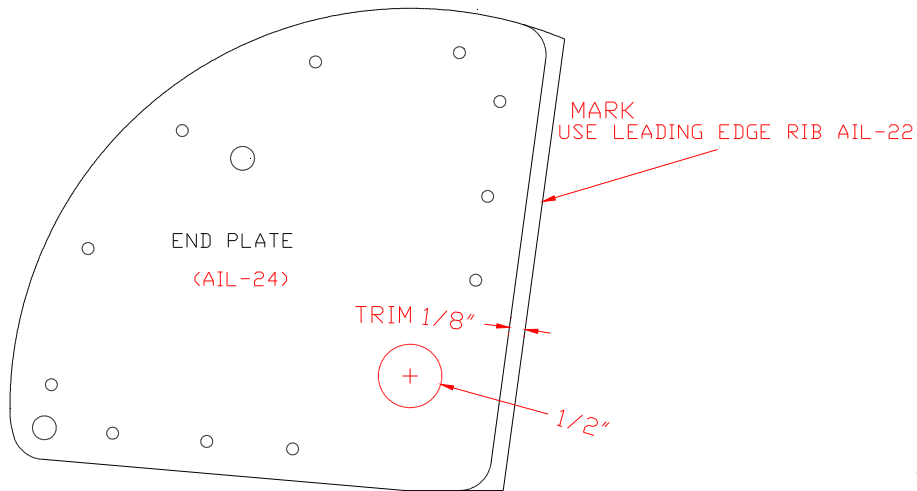

Figure 7.4.5
19) Prepare a End Plate for the mid point hinge by drilling the #11 pivot hole to 1/2". This endplate must be trimmed to fit. Use the AIL-22 leading edge rib to mark the end plate for trimming. Trim 1/8" back from the mark made using the rib. Figure 7.4.5.